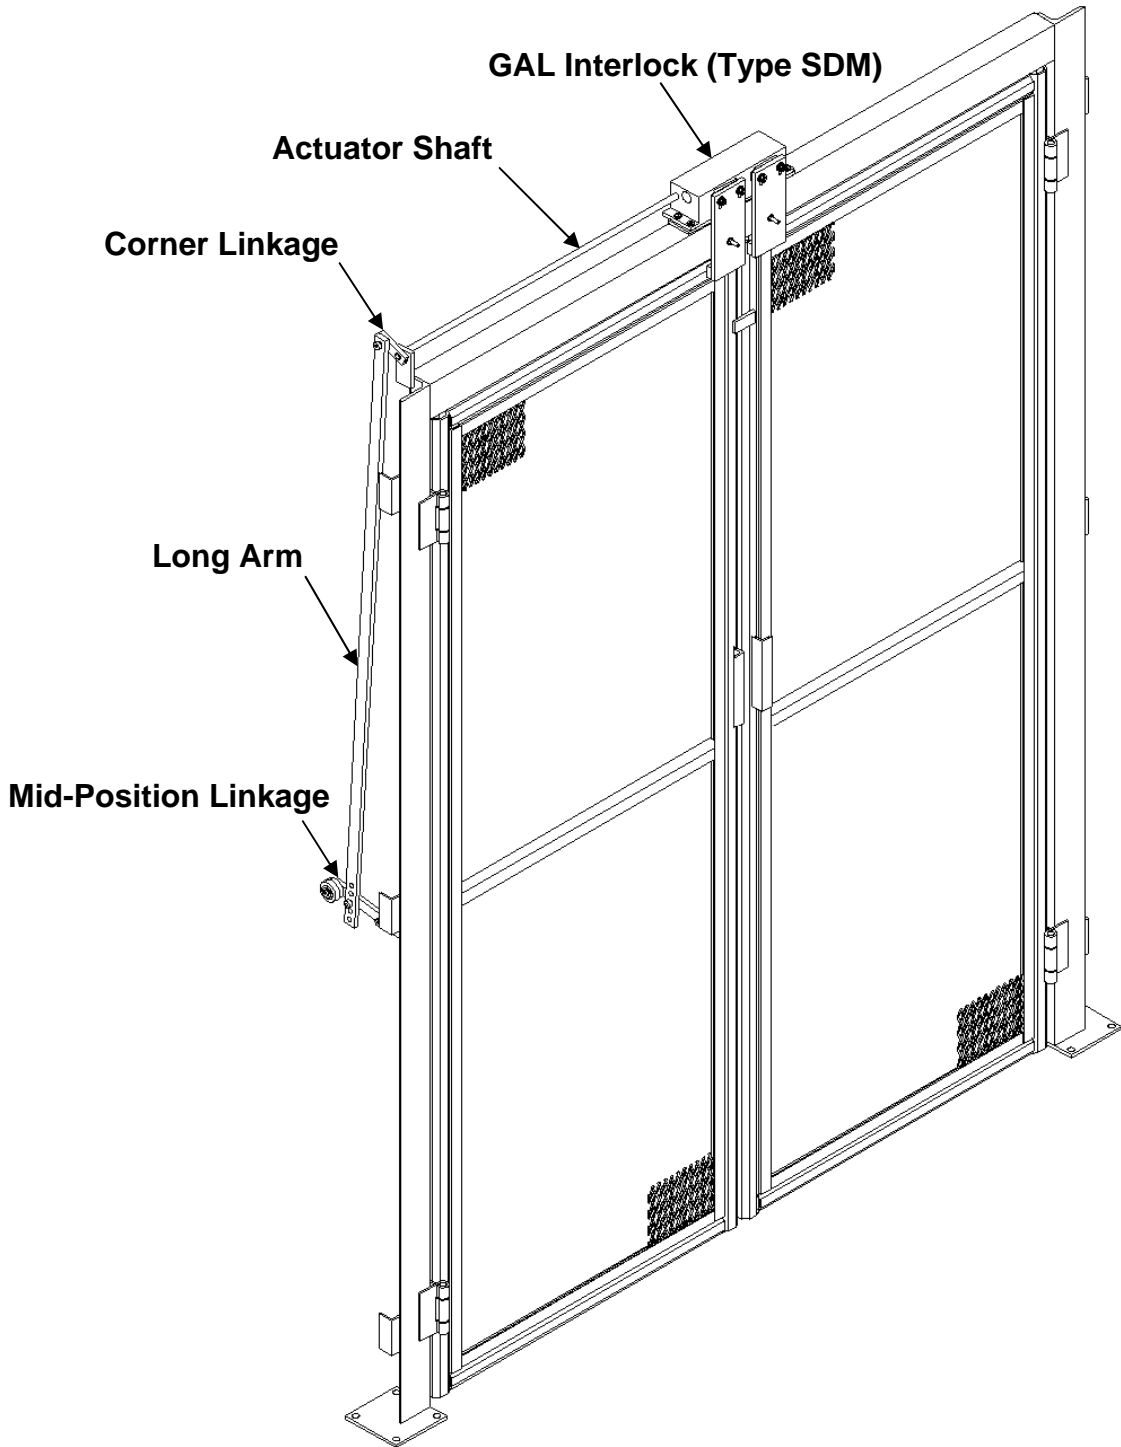

Figure 13 – GAL Interlock (Type SDM)
3. Install the actuator shaft into the interlock with the hardware provided. The shaft will need to be cut off ½” longer than the corner linkage after it is installed (see **Figure 13**).